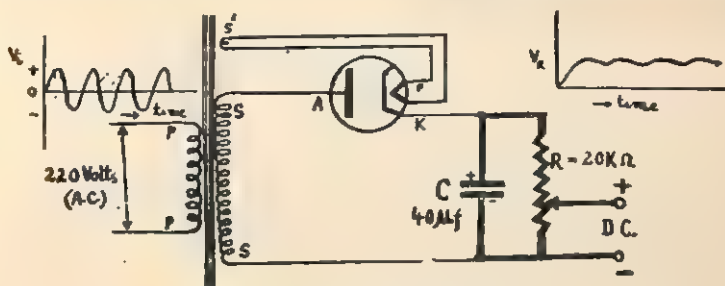

Fig. 13.9. A half wave rectifier.
**Procedure.** (i) Draw the circuit diagram of Fig. 13.9 on a wooden board with a suitable paint.